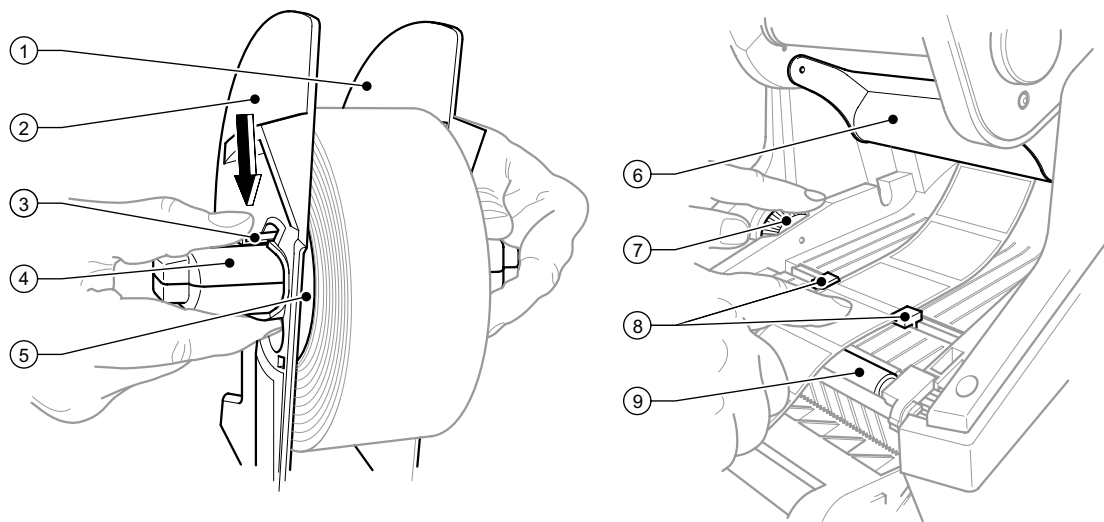

Fig. 4: Roll holder and path of the label stock
5. Press the release button (6) and hinge the print module up.
6. Feed the fanfold labels forwards under the deflector, fig. 4 (6), and over the print roller, fig. 4 (9), until it projects about 15 cm out of the printer.
7. Move the label guides (8) apart with the setting wheel (7) until the labels can pass between them. Press the strip label down with the hand, and move the label guides (8) back up against the edges of the label.
9. Feed the label stock out through the slot in the control panel (5). Hinge up the control panel (5) and close the cover (3).